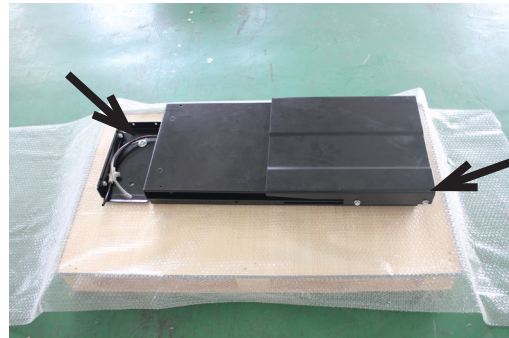

Figure 4 - 2 screws
3. Remove 2 screws (fig 4) and move LIFT ASSY below the Balancer stub shaft.